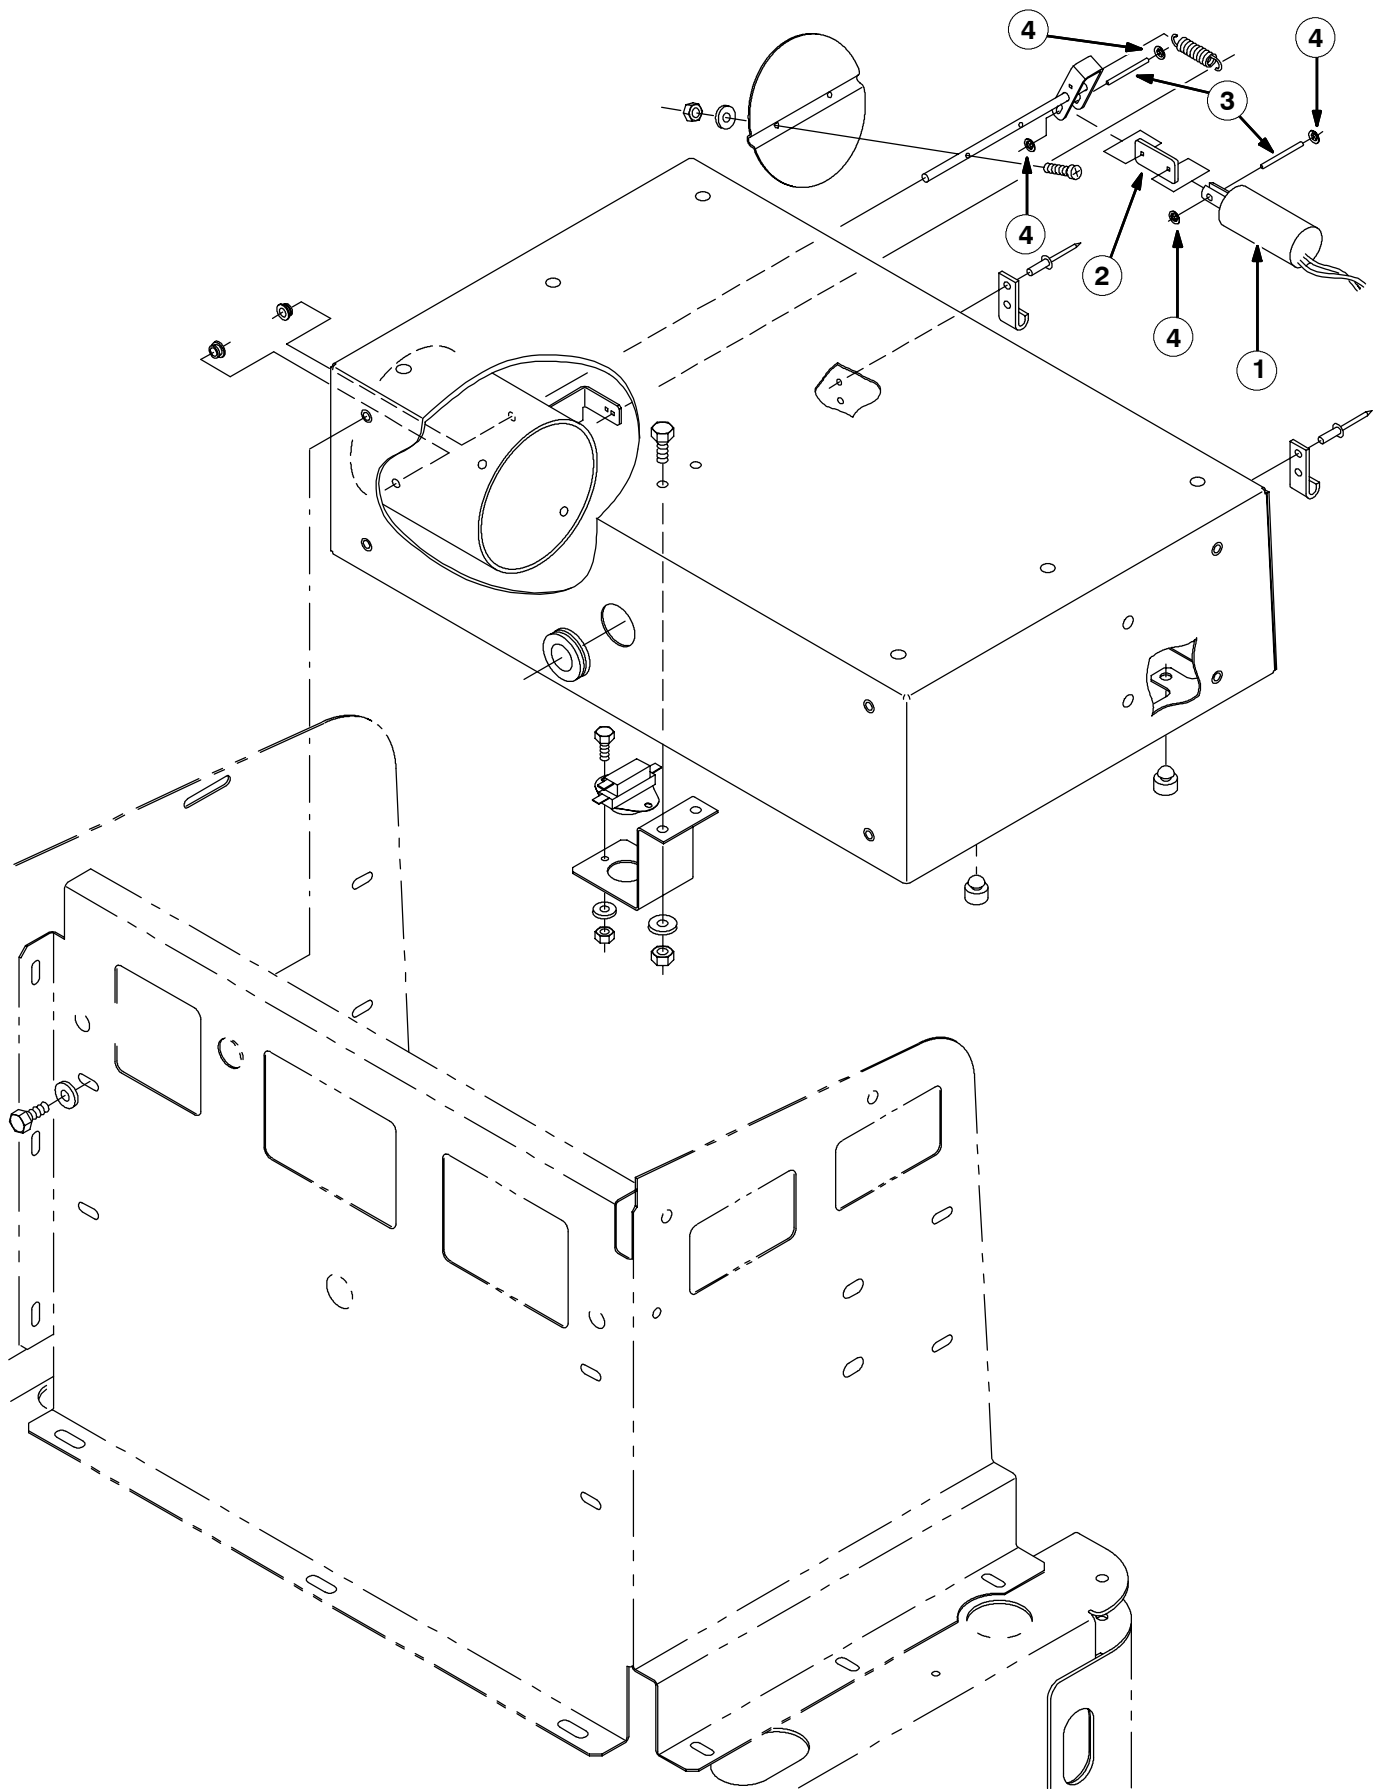

FIG. 2 - SOLENOID DAMPER KIT, 6100
7. Mount the new solenoid (1) in the new round solenoid mounting hole. (Refer to FIG. 2)
8. Connect one end of the new link (2) to the new solenoid (1) with a new pin (3) and pin retainers (4). Connect the other end of the link (2) to the damper rod with a new pin (3) and pin retainers (4). (Refer to FIG. 2)